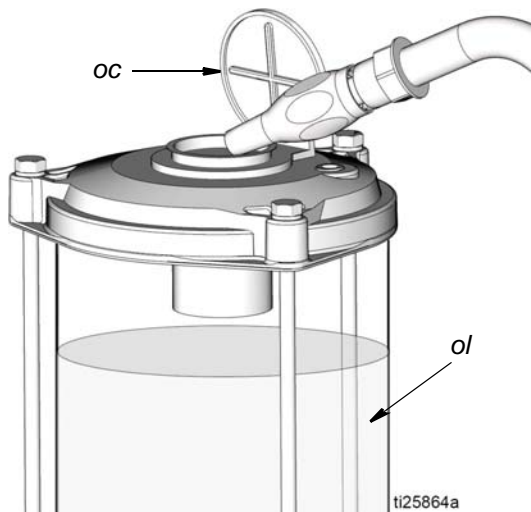

FIG. 6
2. Slowly add oil (*ol*) until reservoir is filled to capacity (FIG. 6). Take care to not fill reservoir too quickly and overflow the reservoir capacity.
3. Close oil fill cover (*oc*) to prevent contamination and spillage (FIG. 6).